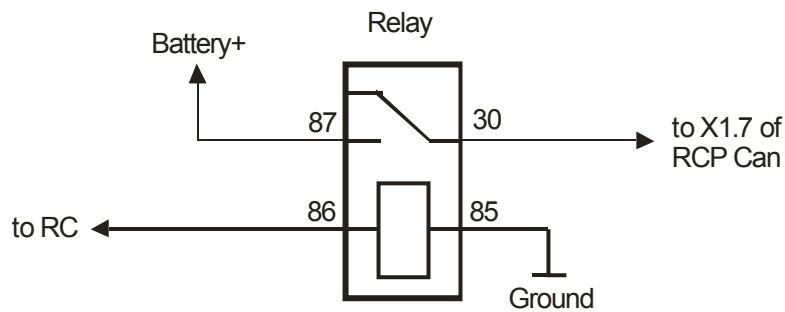

Figure 8
- The input RC_in is intended for connection of specialized remote control devices such as DEFA Smart Start, Hydronic Easy Start, Webasto Telestart. If direct connection of RC's output control line to the RCP's input line RC_in is not functional, try the scheme at the fig.8.